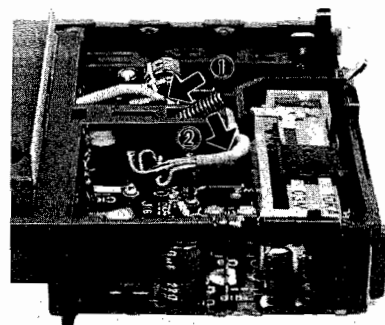

Fig. 12
- ※ 2. Insert the spring in the direction of arrow ① & ②, as shown in Fig. 12.